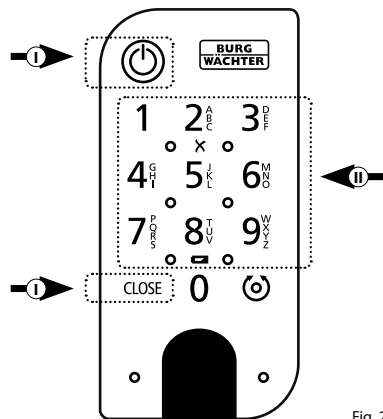

Fig. 28
- 1 Activate the keypad by pressing either the ON key or the CLOSE key (I) (Fig. 28).
- 2 Type in your 6-digit administrator code or user code (II) (Fig. 28).